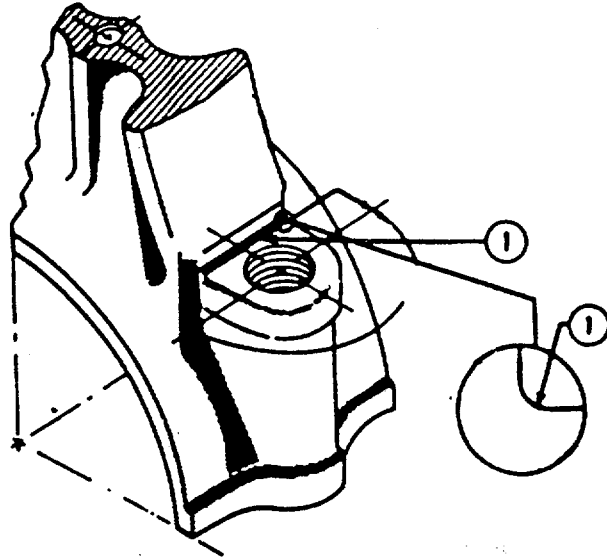

FIGURE 4-32. *Fillet Radius.*
- (b) Without a piston pin bushing (2), the twist must be no more than 0.020 inch (0.51 mm).
- (c) With a bushing (2) installed and machined to the correct size, the twist must be no more than 0.010 inch (0.25 mm).
- (11) Measure the connecting rod machine bolts (10).
- (b) Replace any machine bolts (10) that have damaged threads.
- (12) Measure the pilot bore in the bolt holes.
- (a) If the pilot bore in the rod (1) is larger than 0.6249 inch (15.872 mm), discard the rod.
- (b) If the pilot bore in the cap (11) is larger than 0.6252 inch (15.880 mm), discard the cap (11).
- (13) Check the radius on the bot pad.
- (a) The pad must have a fillet radius of 0.045 to 0.055 inch (1.14 to 1.40 mm). See Figure 4-32.